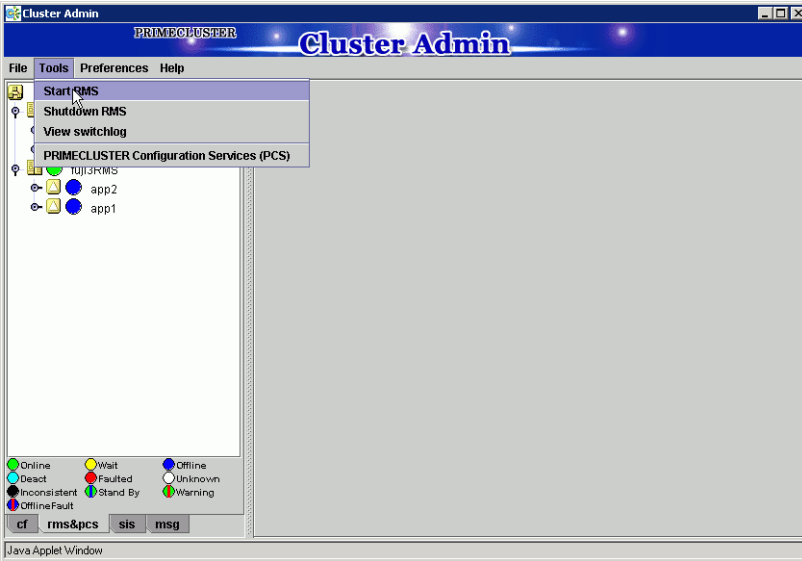

Figure 97: Starting RMS from the main menu
1. From the Cluster Admin *rms* tab, select *Tools > Start RMS* (Figure 97).